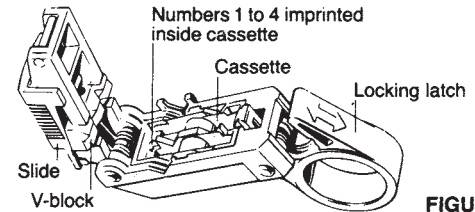

FIGURE 2
**Note the parts of the stripper in Figure 2.**